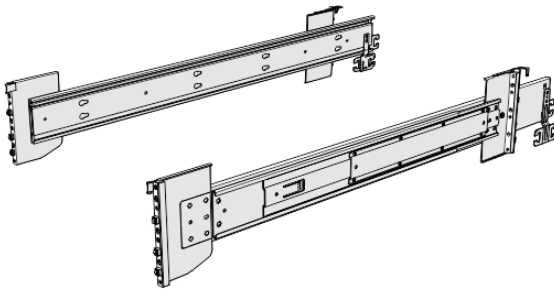

Figure 46. Support rails
1. Locate the hardware that is used to install the rails, including the M4xL6 and M5xL13 screws. Set the hardware, which is shown in Figure 46 on page 82, aside for use later in the installation process.